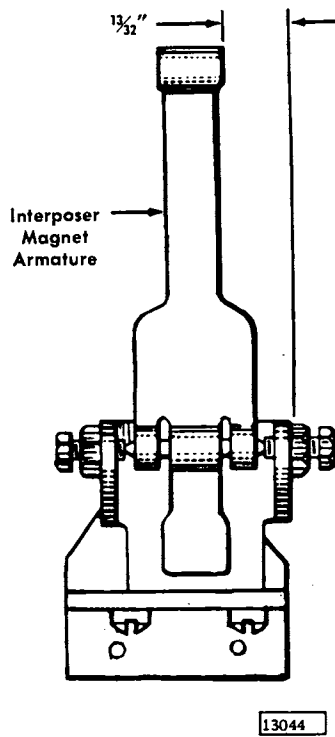

Figure 4-25. Interposer Magnet Armature
1. Adjust the armature pivot screws so that the right side of the armature is 0.393" (13/32") from the right side of the pivot frame (Figure 4-25).